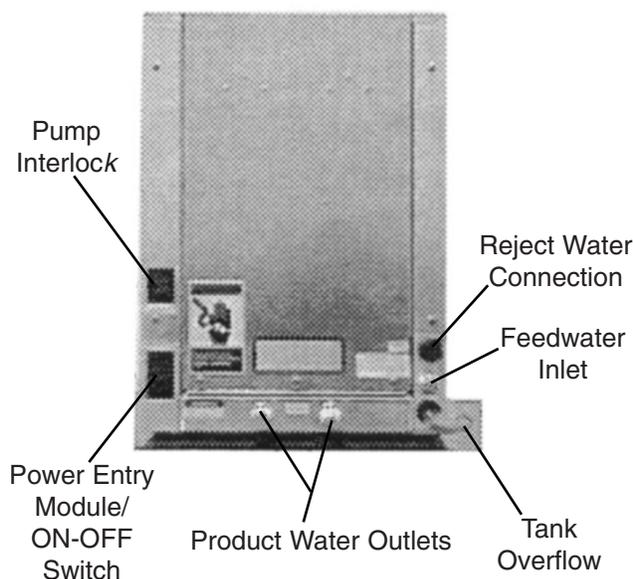
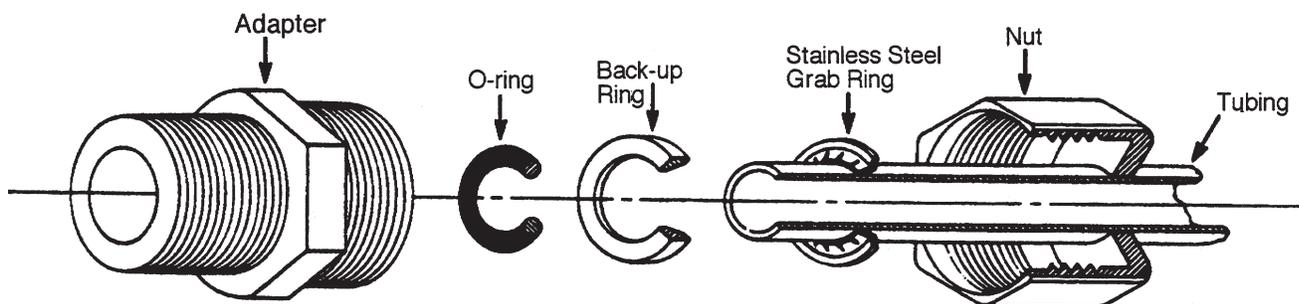

Figure 3: Connections
Figure 4: Typical Polypropylene Tubing Adapter Installation
2. Insert the quick disconnect insert into the feedwater inlet on the EASYpure RO. (See Figure 3 for location.) Install the tubing adapter onto your incoming water line. We recommend a customer supplied shut off valve be installed in your feed water line.
1. Locate the reject water tubing. This is the piece of 3/8" O.D. tubing that has an adapter on one end and no connector on the other end. Remove the nut, grab ring, backup ring and o-ring from the reject water fitting located at the lower right of the unit. (See Figure 4 for part identification and Figure 3 for fitting location.)
1. Refer to Figure 3 and attach a customer supplied hose barb connector and 5/8" O.D. tubing to the tubing located at the lower right of the unit as you look at the rear of the unit.
3. Locate the pump interlock cord supplied with the EASYpure RO. Plug one end of the pump interlock cord into the pump interlock on the EASYpure RO. (See Figure 3.) Remove the jumper plug from the pump interlock on the other
4. Connect the product and reject tubes in the right-hand membrane position on the EASYpure RO to the product and reject outlet connectors on the RO membrane cartridge. Ensure that the o-ring, backup ring, stainless steel grab ring and nut are in place on the product and reject tubing on the EASYpure RO (see Figure 4). Ensure that the product tube is connected to the product